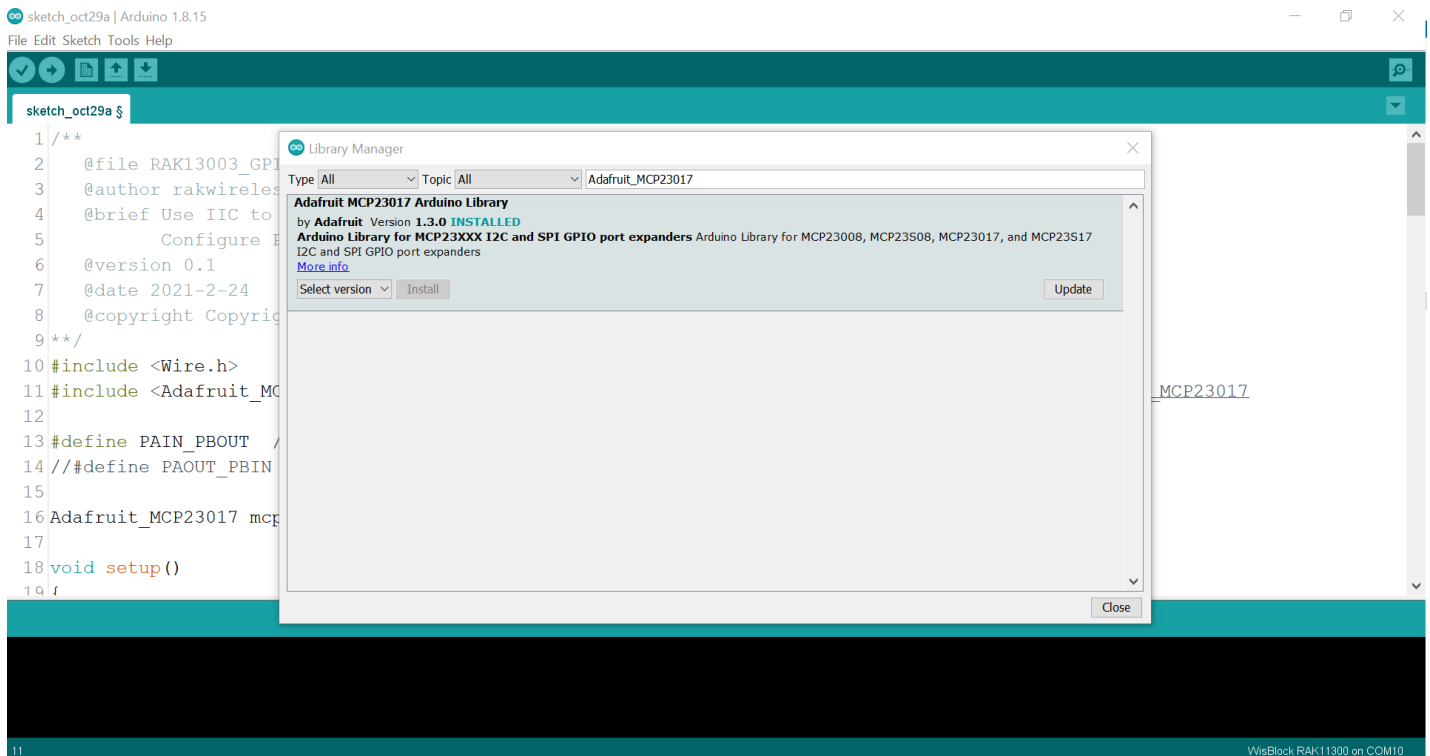

Figure 21: Installing the Library
3. Install the required library, as shown in **Figure 21**.